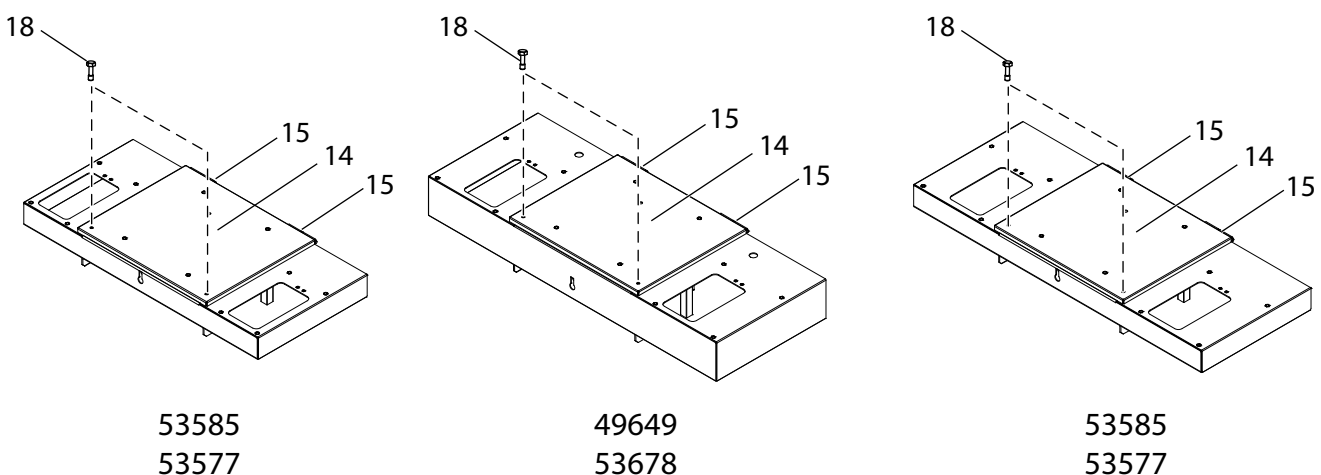

Figure 28. Electrical connection: opening spacer
2. Remove the two locking screws (18) on the spacer (4) see Figure 28.
3. Carefully tip the seat in the direction of the hinges (15), make sure the control stand is secured against tipping back and is placed on a suitable surface.